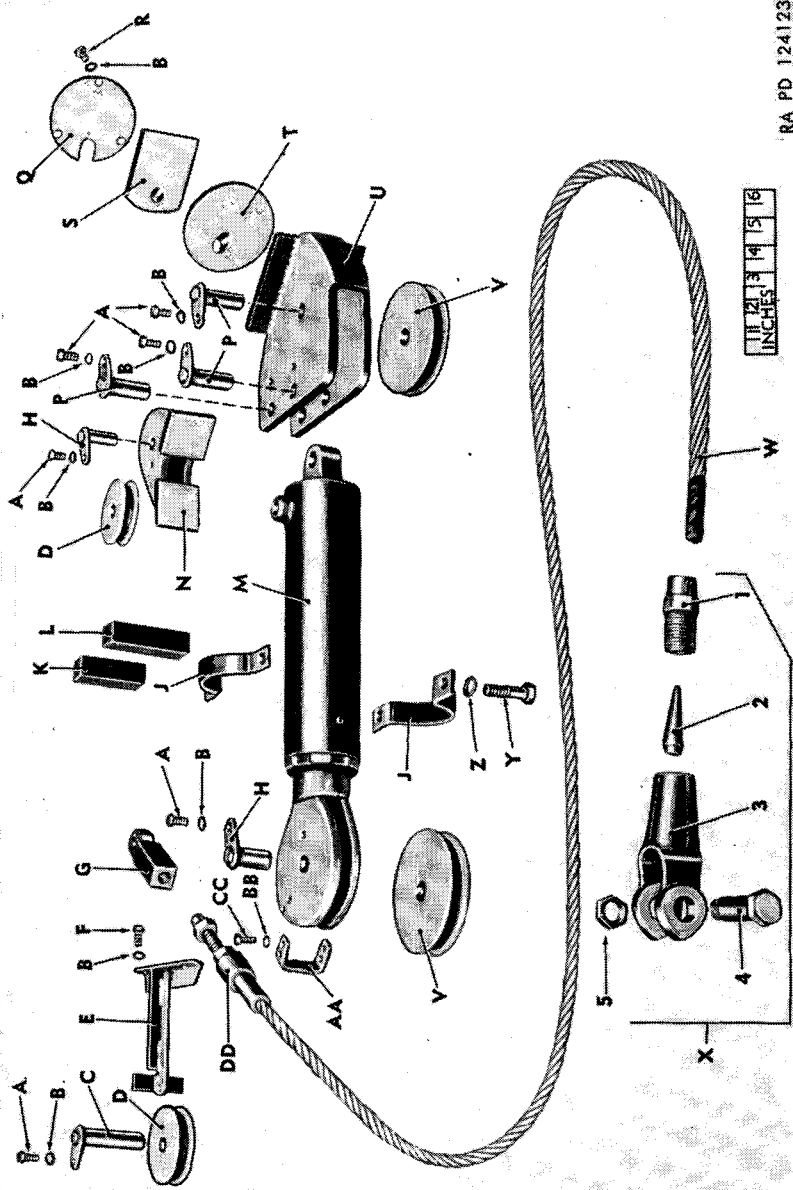

Figure 54. Emergency-lift hydraulic jack, cable, cable sheaves, and sheave supports—exploded view.
- (4) Install the emergency-lift-cable clip around the cable and over the sheave support at the end of the jack-piston ram, and secure it in place with two screws and lock washers (fig. 54).
the right push beam (fig. 49) by removing the nut and clevis pin from the cable clevis (fig. 54) at this end of the cable.
- (7) From inside of the vehicle, pull the free end of the cable down through the emergency-lift-cable guide (fig. 38) and out the bottom of the hydraulic-jack-mounting bracket (fig. 54).
- (8) Remove the screw, lock washer, and the pin which attaches the emergency-lift-cable (anchor-end) connector to the hydraulic-jack-mounting bracket—and slip the connector out of the bracket.
- (9) Remove two screws and washers and the emergency-lift-cable clip from the lower end of the jack-piston ram, and pull the cable free from the jack.
b. MAINTENANCE. Inspect the ends of the cable removed from the cable clevis to make certain that the strand ends are not bent or damaged so that the cable will be weakened when it is reinstalled in the clevis. Inasmuch as there is relatively little adjustment provided for in the cable (allowable adjustment is limited by the length of the threaded portion of the sleeve part of the (anchor-end) connector (fig. 54)), damaged cable ends cannot be cut back more than 2 or 3 inches to provide an undamaged end for installation of the clevis. If there is need to cut the cable back farther than this, or the cable has already been cut back as far as permissible, or if it is damaged at other portions, a new cable must be installed.
- (1) Thread the plain end of the cable upward through the hydraulic-jack-mounting bracket (inside of the vehicle) at the rear of the sheave in this bracket, and push the end on up and through the opening in the emergency-lift-cable guide on the outside top of the vehicle hull (fig. 54).